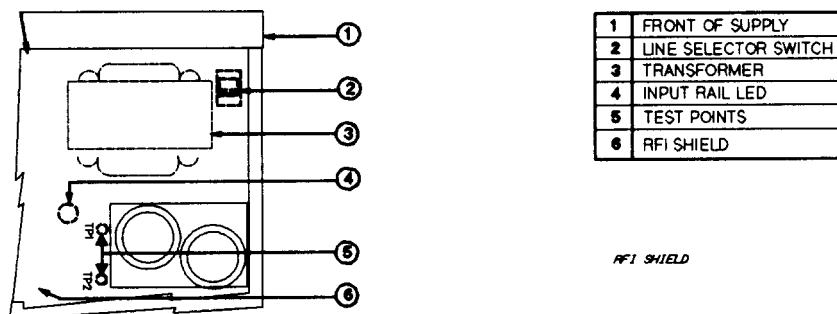

Figure C-3. Series 667xA Line Select Switch
4. Slide the dustcover back far enough to expose the line select switch (see Figure C-3).